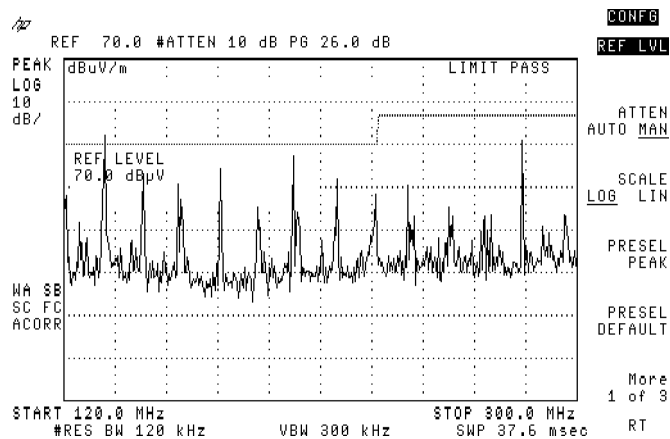

Figure 3-56. Increased EMC Analyzer's Sensitivity
27. Press 70, **dB**. See Figure 3-56.